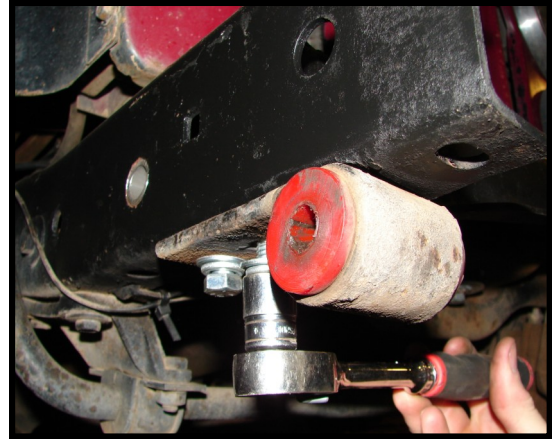

FIGURE 2
STEP 2: Raise and support the Jeep® with jack stands under each side of the frame behind the front springs. With the front suspension un-loaded (wheels off the ground about 3") remove the tires/wheels. Remove the front shocks. Remove the front drive shaft. Place two more jack stands under the axle housing outside the springs. Remove the front leaf springs. Remove the stock front shackle brackets from under the frame just behind the front bumper. See figure 2.